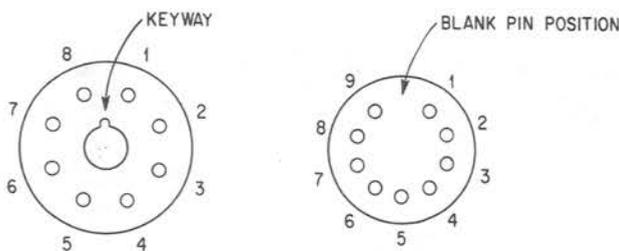

Fig. 5 - Tube Socket Pin Numbering System
2.18 If the tests mentioned above fail to reveal the trouble, it will be necessary to check the operating voltages in the amplifier. The values of voltages on the various elements of the electron tubes may be measured at the tube sockets on the underside of the chassis. The voltages should be measured between the point indicated and the B negative lead, or to the chassis. Table 2 lists the voltages to be found at the various circuit points when the amplifier is operating normally and without input signal applied. Fig. 5 shows the pin numbering arrangements for electron tube sockets as viewed from the wiring side.